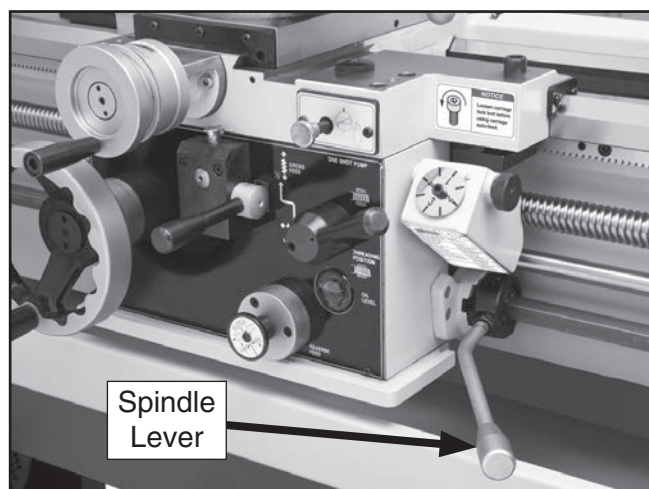

Figure 29. Spindle lever in down (forward) position.
- Verify that the machine is operating correctly by pulling the spindle lever out and moving it down to start spindle rotation (see **Figure 29**).